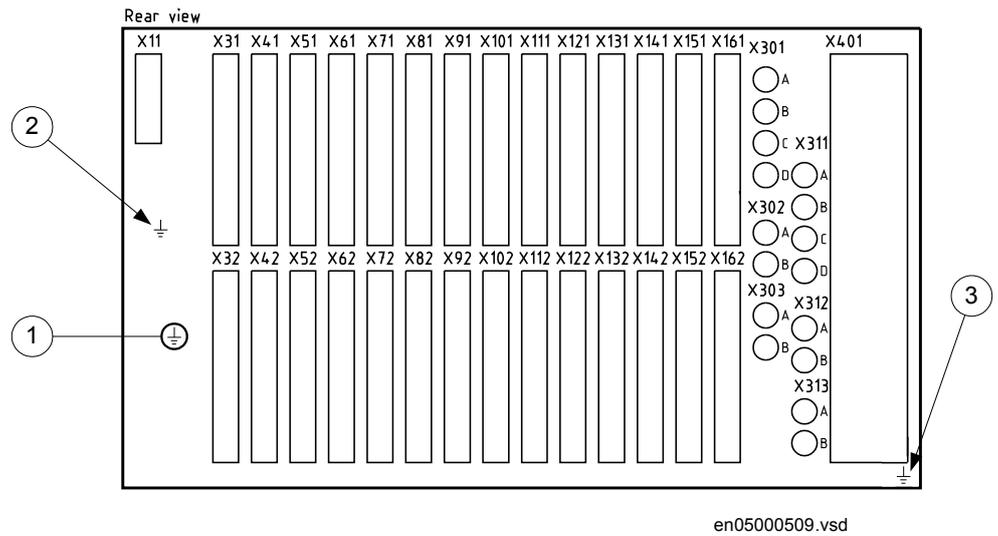

Figure 29: Rear view of IED showing earthing points.
Connect the protective earthing screw (pos 1 in figure 29) on the rear of the IED to the closest possible earthing point in the cubicle. Electrical codes and standards require that protective earth cables are green/yellow conductors with a cross section area of at least 2.5 mm² (AWG14). The Power supply module (PSM), Transformer input modules (TRM) and the enclosure are all separately earthed, see figure 29 below.